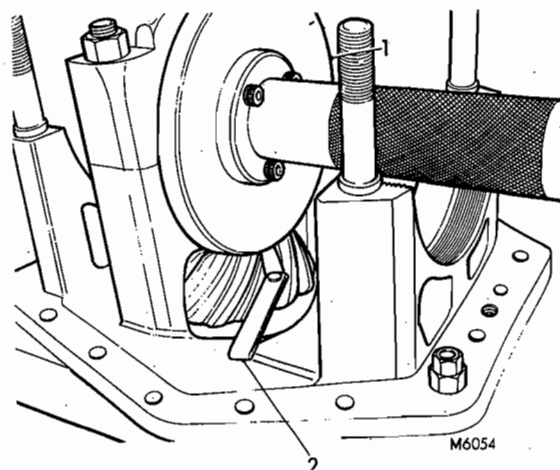

FIG. 4 SETTING PINION DEPTH
3. Position tool Part LC841SZ as shown in Fig. 4, and check with feeler gauges, the gap between pinion face and tool.